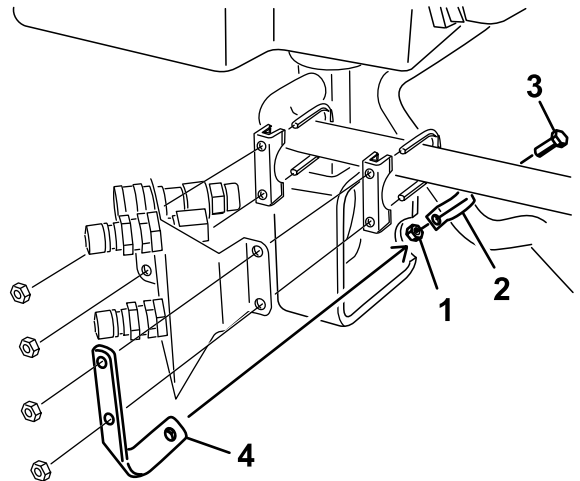

Figure 28
6. Install an R-clamp onto the large hydraulic hose as shown in Figure 28.
7. Install the R-clamp to the retainer bracket with a bolt (5/16 x 7/8 inch) and a nut (5/16 inch); refer to Figure 28.